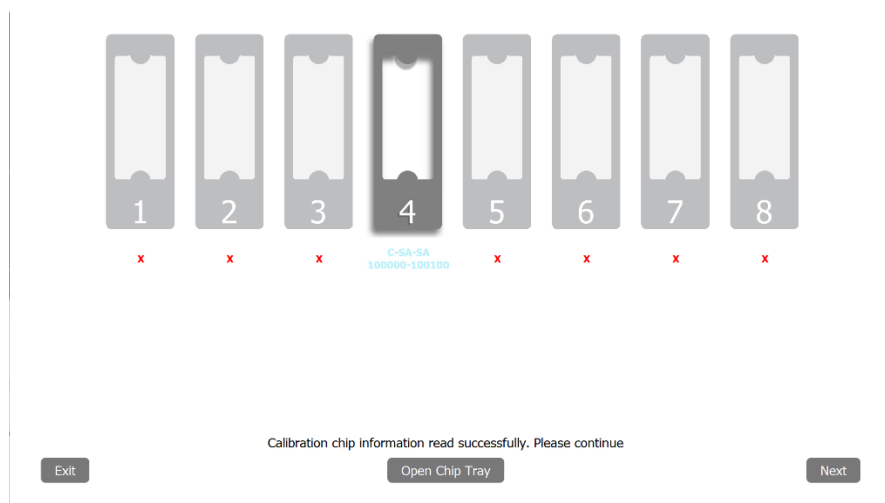

Figure 177 – Calibration Chip Scanned Successfully
3. Press "Close Chip Tray" once the Calibration Chip is loaded. After the Calibration Chip barcode scans (takes a moment), the display will appear as in Figure 177.